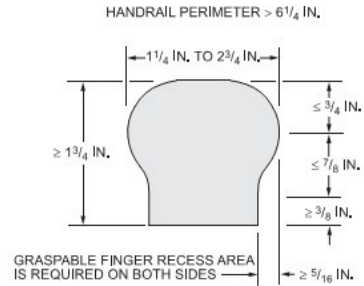

FIGURE 39: HANDRAIL GRASPABILITY
- Handrails shall have a smooth surface with no sharp corners and shall be graspable. Recessed sections may be shaped from a 2x6 or five-quarter board as shown in FIGURE 39.